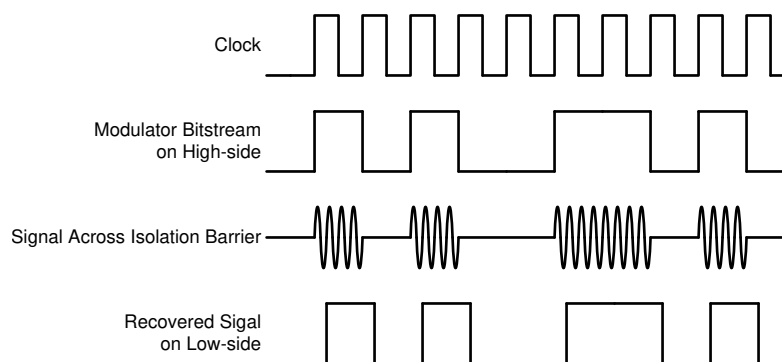

图 7-3. OOK-Based Modulation Scheme
The AMC3306M25 uses an on-off keying (OOK) modulation scheme, as shown in 图 7-3, to transmit the modulator output bitstream across the SiO₂-based isolation barrier. The transmit driver (TX) illustrated in the Functional Block Diagram transmits an internally generated, high-frequency carrier across the isolation barrier to represent a digital *one* and does not send a signal to represent a digital *zero*. The nominal frequency of the carrier used inside the AMC3306M25 is 480 MHz.
图 7-3 shows the concept of the on-off keying scheme.